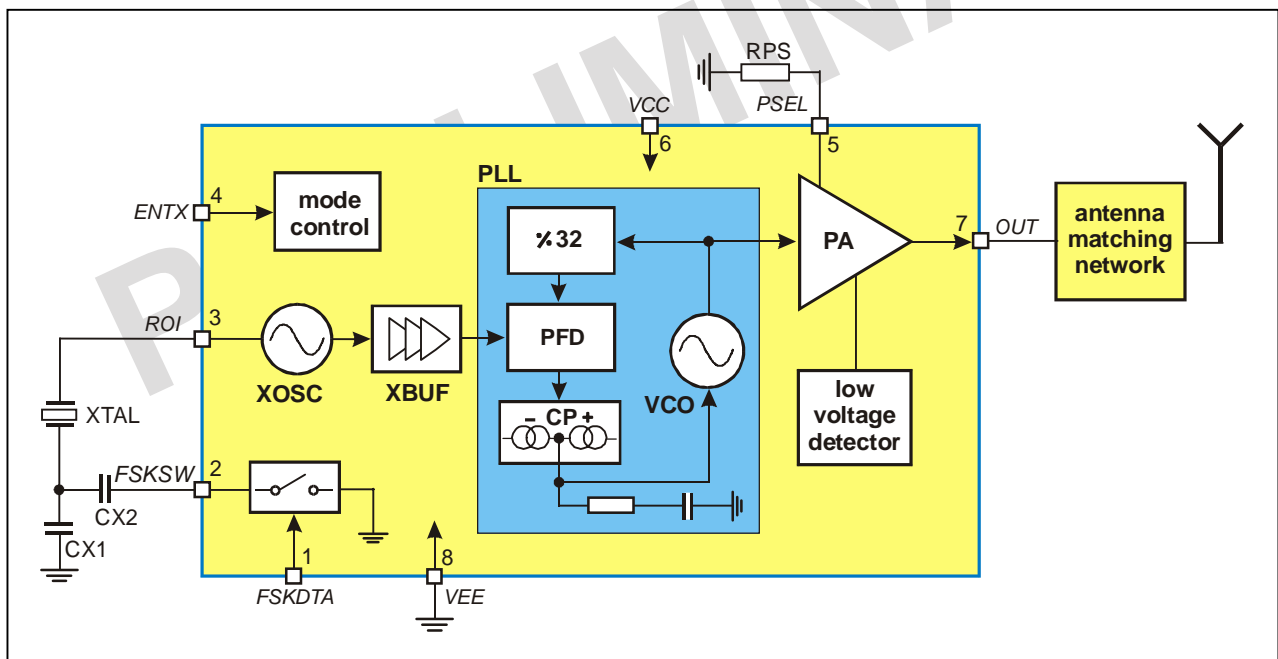

Fig. 1: Block diagram with external components
As depicted in Fig.1, the TH72011 transmitter consists of a fully integrated voltage-controlled oscillator (VCO), a divide-by-32 divider (div32), a phase-frequency detector (PFD) and a charge pump (CP). An internal loop filter determines the dynamic behavior of the PLL and suppresses reference spurious signals. A Colpitts crystal oscillator (XOSC) is used as the reference oscillator of a phase-locked loop (PLL) synthesizer. The VCO's output signal feeds the power amplifier (PA). RF signal power P_{out} can be adjusted in four steps from $P_{out} = -15$ dBm to +6 dBm, either by changing the value of resistor RPS or by varying the voltage V_{PS} at pin PSEL. The open-collector output (OUT) can be used either to directly drive a loop antenna or to be matched to a 50Ohm load. Bandgap biasing ensures stable operation of the IC at a power supply range of 1.9 V to 5.5 V.